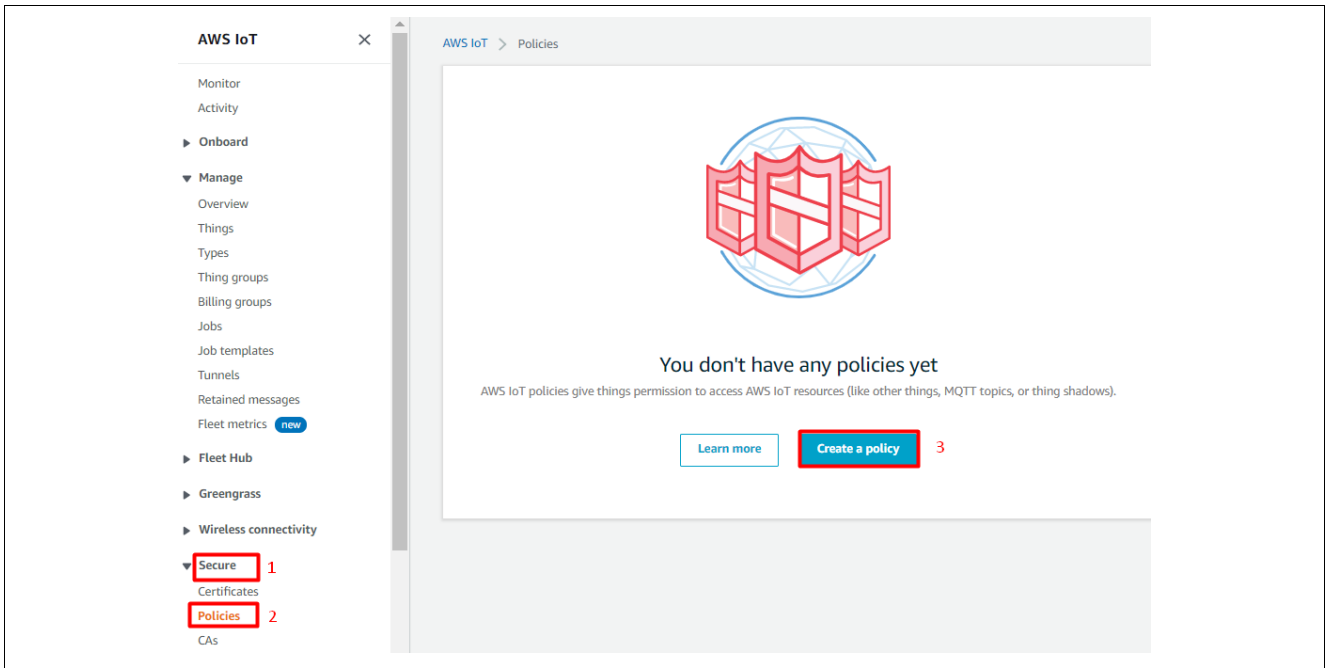

Figure 19. Create a New Policy
- Start creating the policy required for the Thing you just created by selecting **Secure** and **Policies** from the AWS IOT console as shown in Figure 19.